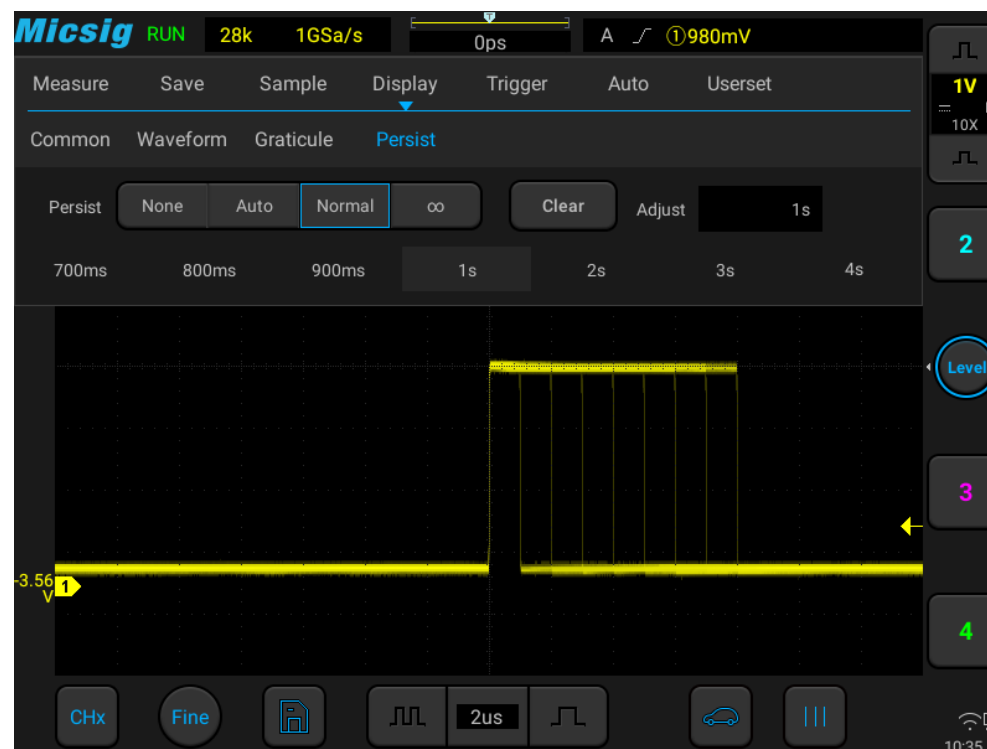

Figure 11-4 Persist time adjust
- **Normal:** Normal - set the persistence time — After selecting the variable persistence, tap the box on the right of “Adjust” to pop up the persistence time selection box (Figure 11-4) and set the persistence time. It can be set between 10ms and 10s.